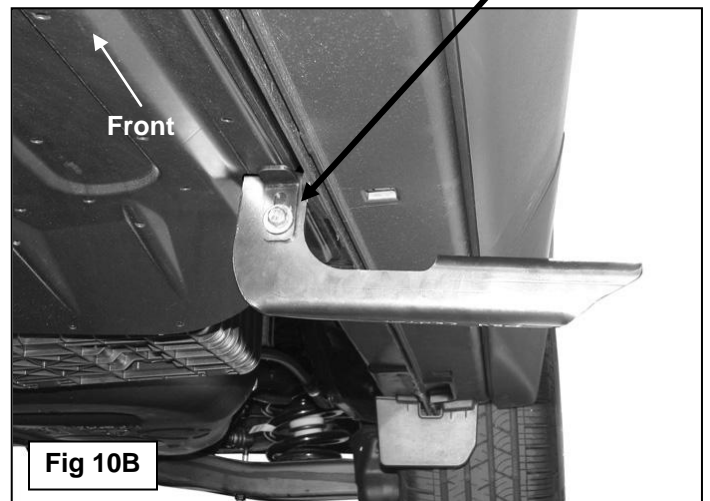

Fig 10B
10. Select (1) "L" Center Support Bracket, **(Figure 10A)**. Bolt the L-Bracket to the front of the Center Bracket with (1) 6mm x 25mm Hex Bolt, (2) 6mm x 22mm Large Flat Washers and (1) 6mm Nylon Lock Nut, **(Figure 10B)**. Leave loose at this time.